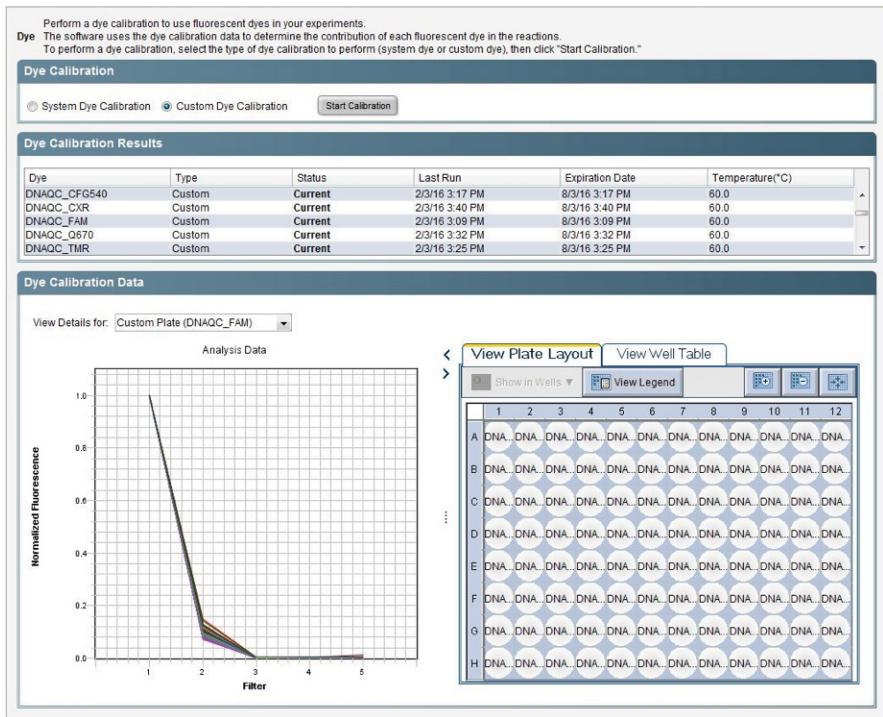

Figure 1. The Custom Dye Calibration option and Start Calibration button.
6. Select “Custom Dye Calibration”, and choose “Start Calibration” (Figure 1).
Note: FAM should give highest signal in Filter 1, CFG540 in Filter 2, TAMRA in Filter 3, CXR in Filter 4 and Q670 in Filter 5. Figure 1 shows an example of a dye calibration spectrum (DNAQC_FAM) across all five filters. See Appendix, Section 7.B for additional figures showing typical spectrum for the other dyes.